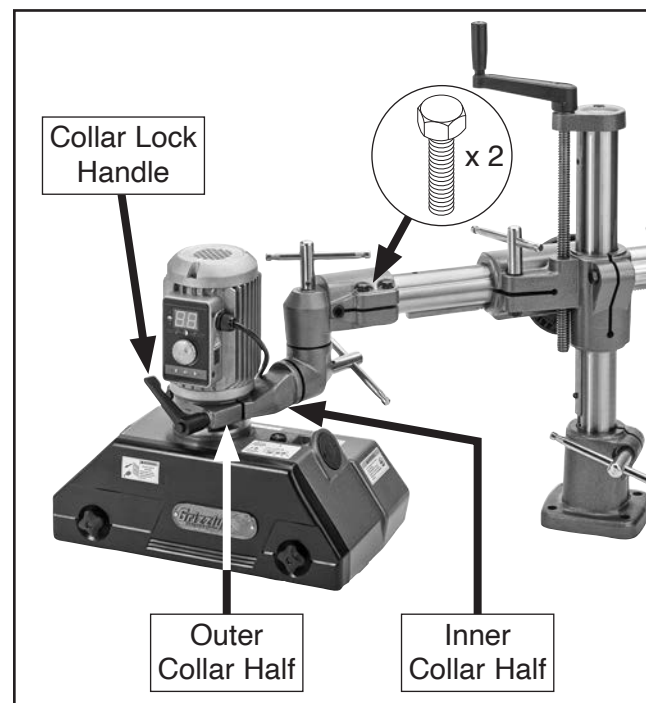

Figure 12. Lock collar secured around motor base.
7. Loosen lower elbow-joint lock, and position inner collar half against motor base (see **Figure 12**).
8. Position outer half of lock collar against inner half of collar (see **Figure 12**), and secure with collar lock handle and hex bolt removed in **Step 6**.
9. Adjust rollers parallel to table top, then tighten (2) hex bolts (see **Figure 12**) securing elbow-joint to overarm shaft.